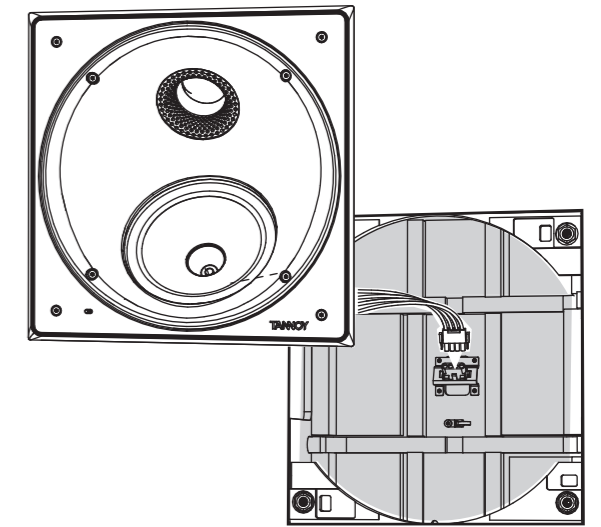

Fig. 6. Connecting the speaker wiring to the back can
4. The speaker assembly can now be connected to the back can using four screws as shown. Take care not to trap or pinch the speaker wiring, or your fingers or tie (Fig. 6).